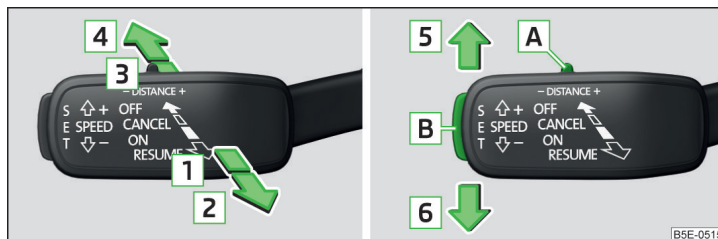

Fig. 234 Operating lever
Overview of ACC functions operated with the lever » Fig. 234
- Press the button **SET** » Fig. 234 on page 186 .
- **or:** Set the lever to the sprung position **RESUME** » Fig. 234 on page 186 .
- Set the lever into the sprung position **CANCEL** » Fig. 234 on page 186 .
The desired speed can be set or changed using the control lever » Fig. 234 on page 186.
► Set the switch **DISTANCE** to the sprung position – or + » Fig. 234 on page 186.
Acceleration can be cancelled at any time by touch on the brake pedal or pressing the button **CANCEL** on the lever » Fig. 234 on page 186.